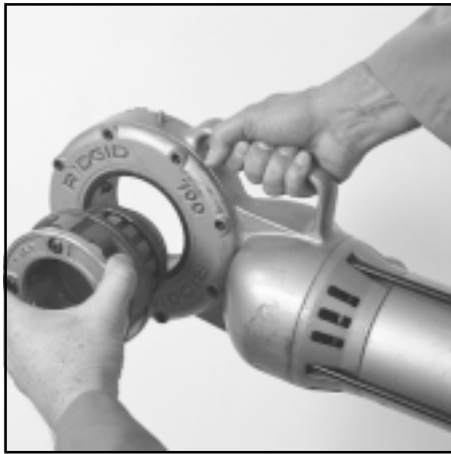

Fig. 1
1. 1/8" - 2" RIDGID 12-R Die Heads fit into the RIDGID 700 power threader without the need for adaptors. Simply push Die Heads spline end first, squarely into Face Gear until spring catches securely. (See fig. 1).